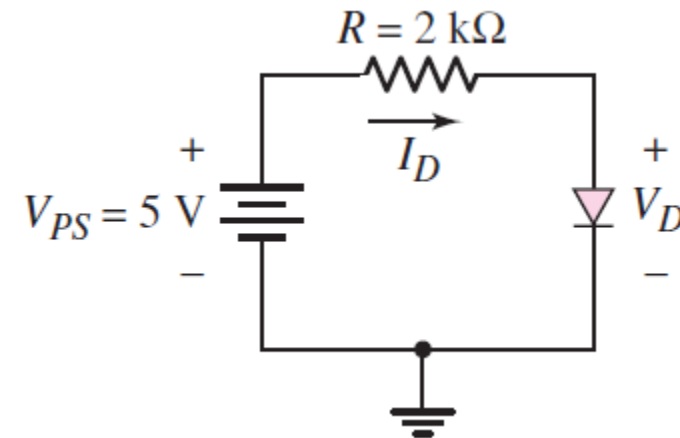

Figure 1.28
- Consider, the circuit shown in Figure 1.28, with a DC voltage  $V_{PS}$  applied across a resistor and a diode.